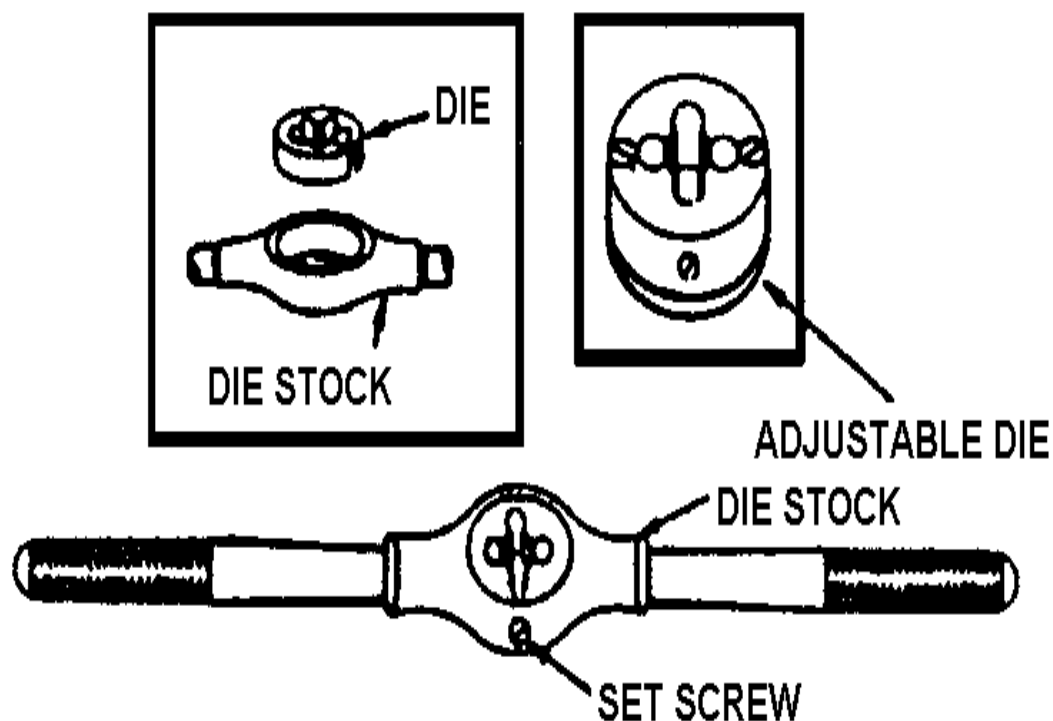

Figure 11, Dies and Die Stock.
- **Dies:** Dies are used to cut external threads. They are formed in hardened discs, of a uniform size, that can be clamped in a leverage-producing device called a diestock. Figure 11 shows the complete assembly ready for use. Using dies is like tapping. Hold the work firmly in a vise and file off any burr on the end of the piece to be threaded. To start the thread, place the large opening of the die over the work and press down firmly while turning clockwise. When the die teeth catch and begin to cut, apply a few drops of cutting oil to the end of the work and continue turning, as if tapping. A part turn forward, followed by a part turn backward, until the thread is cut to the right length. It's important to lubricate the work frequently. After the die teeth have taken hold, remove the feed pressure and let the threads pull the die onto the work at the proper rate.